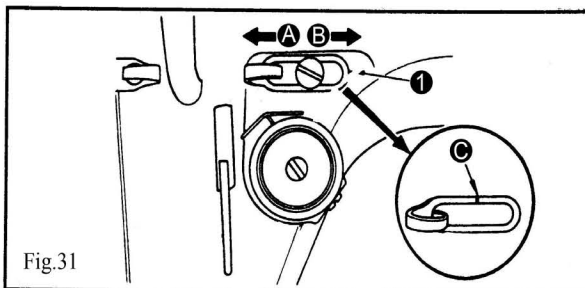

Fig.31
1) Loosen setscrew ①, and adjust the presser bar height or the angle of the presser foot.
25. Counter knife (Fig.31)